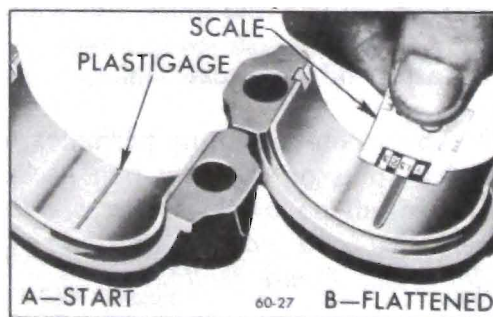

Figure 60-118--Checking Bearing with Plastigage
11. Measure all connecting rod side clearances (see specifications), between the connecting rod cap and side of crankpin. See Figure 60-118.